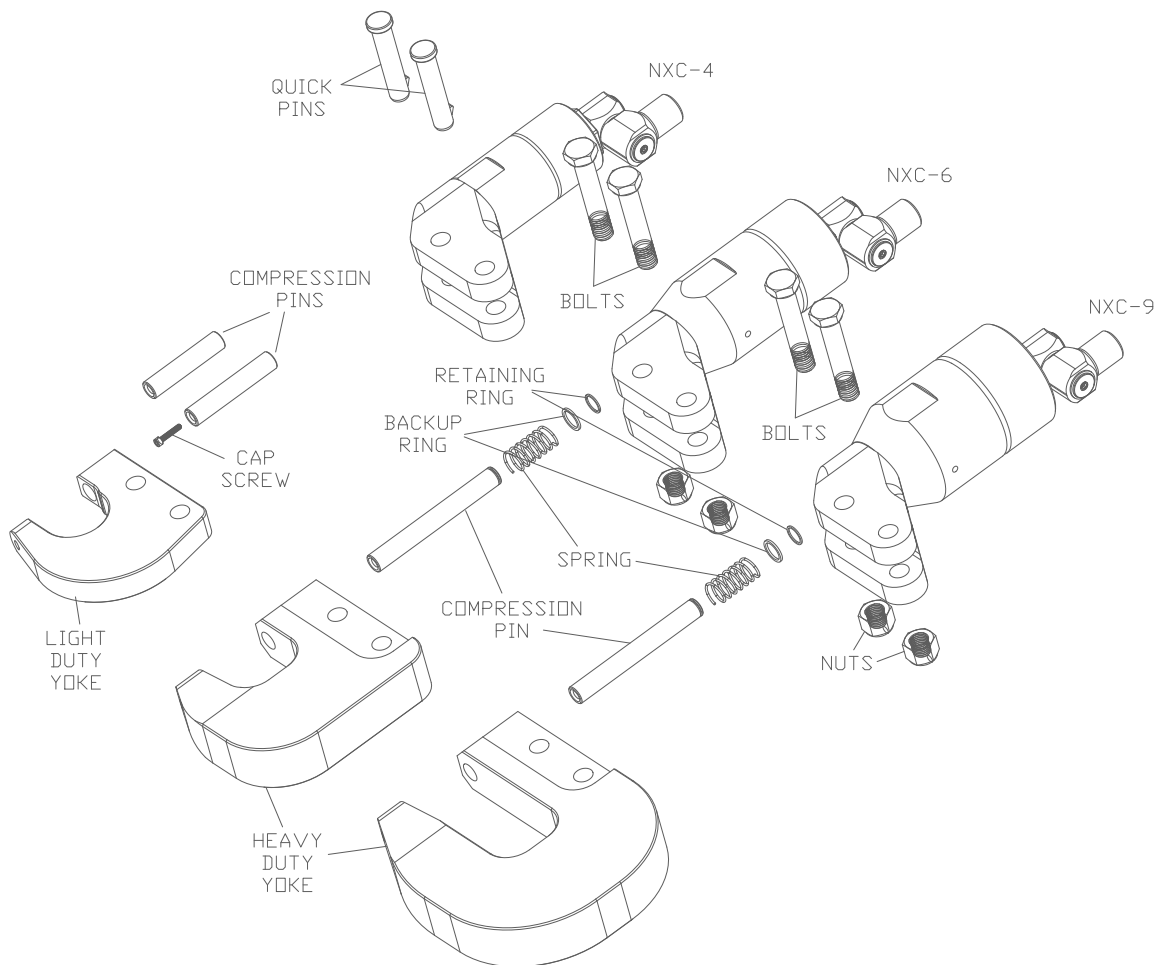
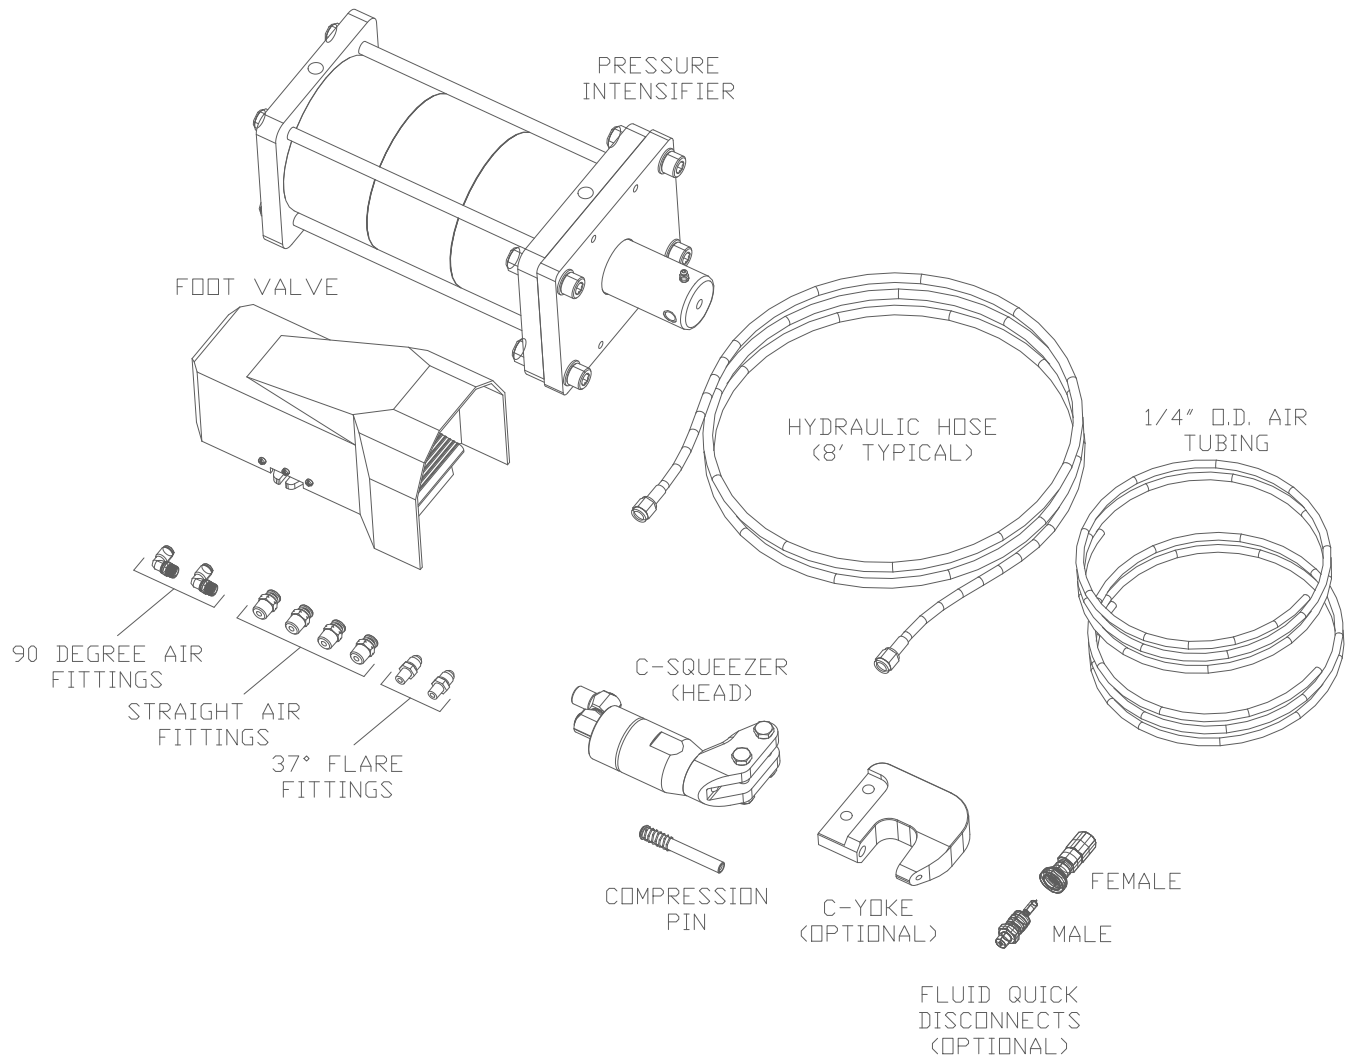

FIGURE 6 – YOKE / COMPRESSION PIN / BOLT INSTALLATION
FIGURE 7 – SYSTEM COMPONENTS)
- 4.4 Refer to Figure 6 for components included with the system, and Figure 7 for the system setup.